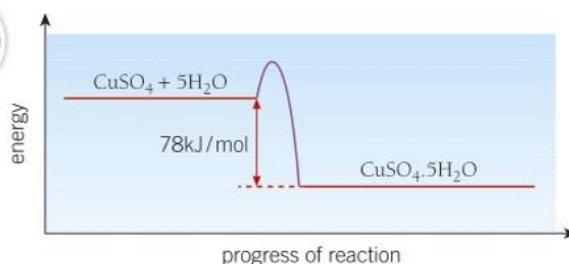

Figure 4 The reaction profile of the reversible reaction involving anhydrous and hydrated copper(II) sulfate
When you add water to anhydrous copper(II) sulfate, hydrated copper(II) sulfate is formed. The colour change in the reaction, from white to blue, is a useful test for the presence of water. The reaction in this direction is exothermic (Figure 4). In fact, you may see steam rising if you add water dropwise to anhydrous copper(II) sulfate powder.